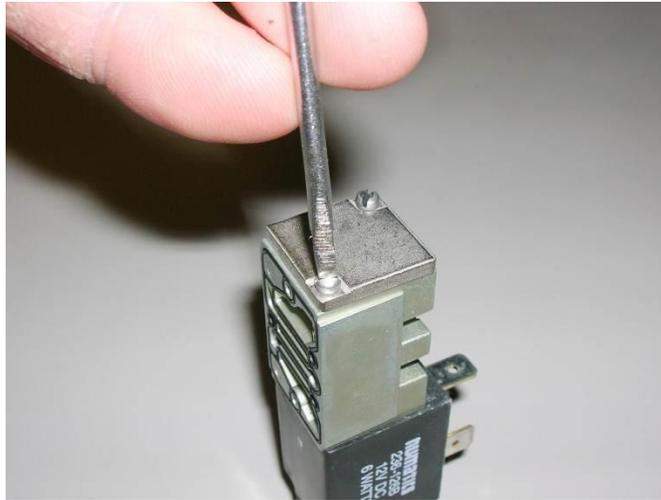

Figure 5-6: Replacing Solenoid Cap
- Carefully place the square cap onto the end, compressing the spring, and reattach the two screws. Make the connection secure but do not over tighten (Figure 5-6).